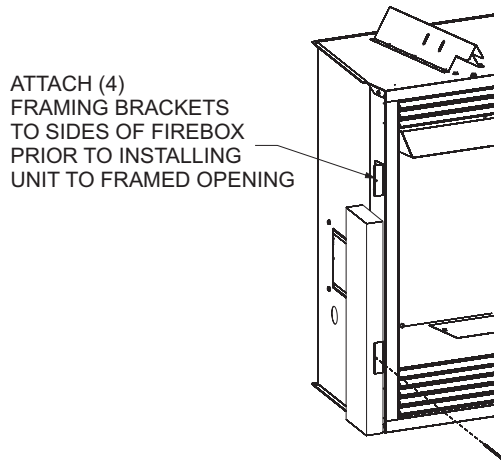

Figure 8
Place firebox in framing opening. Use the four (4) framing brackets provided on the firebox to attach firebox to framing. Different hole locations can be used for finishing materials with thicknesses of 3/8", 1/2" and 3/4". Attach these materials with screws provided, two (2) per framing bracket. See Figure 8.